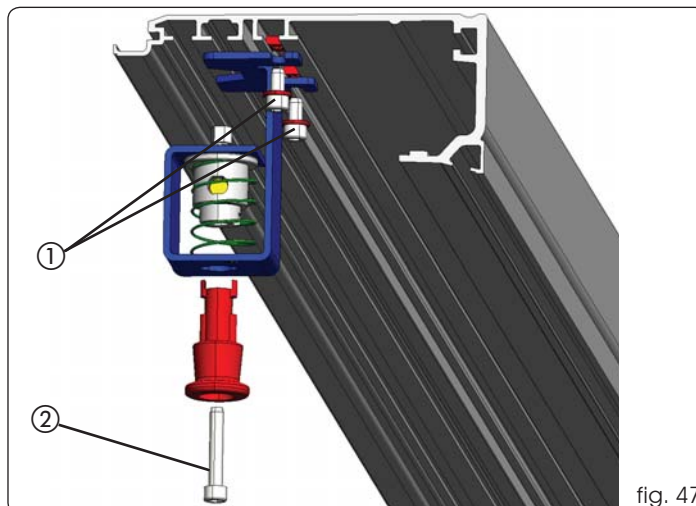

fig. 47
- Assemble the release knob on the side bracket as shown in fig. 47, after having inserted the two plates in the profile (fig. 47 ref. ①)
**if the release knob is present, to open the housing, dismantle the knob, unfastening the screw in fig.47 ref. ②**